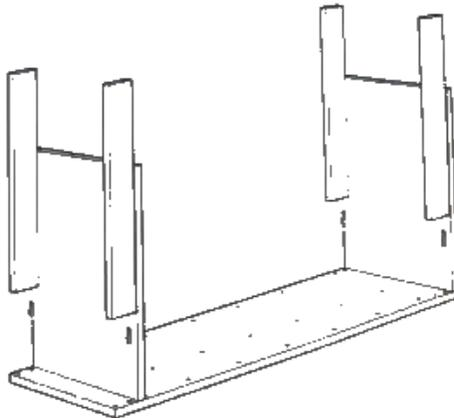

Figure 2 – Attach the stabilizer boards
3. Using one (1) wooden peg for each stabilizer board, attach the boards underneath the short boards (Figure 2).